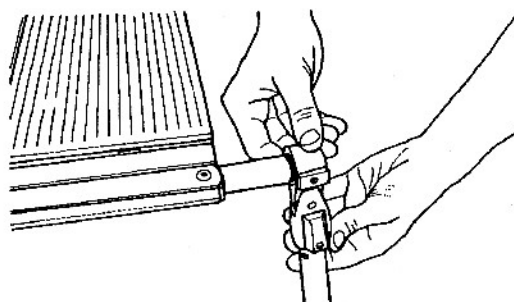

Fig. A-53
63. Install the telescoping leg on the leg adaptor, as seen in Fig. A-53. Use a 5/32" Allen wrench to tighten the setscrew, locking the telescoping leg onto the leg connector bracket.